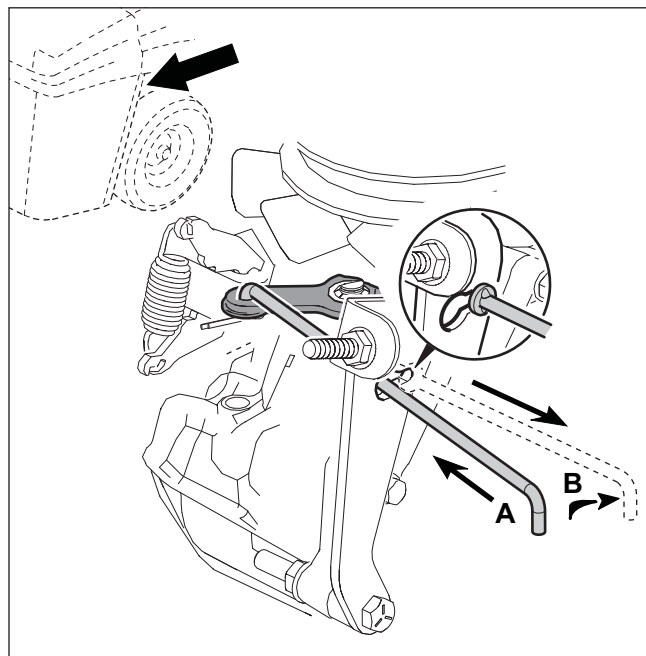

Figure 12
1. The automatic drive disconnect must be in the DRIVE position (see **A**, **Figure 12**).
2. Move and latch the automatic drive disconnect in the PUSH position (see **B, Figure 12**). The transmission is now released and the unit can be pushed.